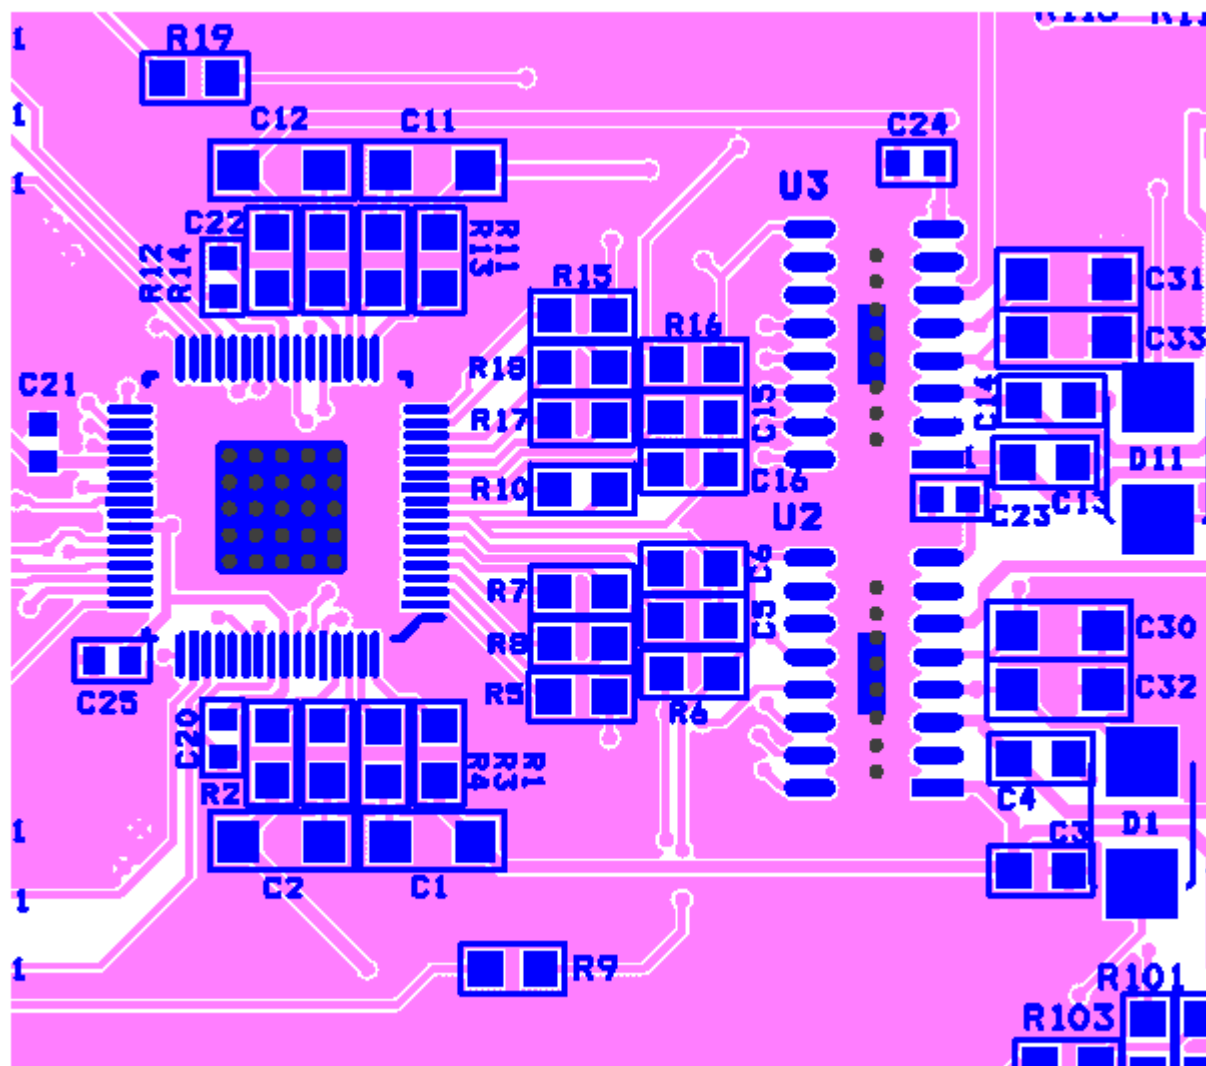

Figure 1. Top Layer (Component Side)
The connections between pins 6, 7, 10, 11 and their respective components (C5, C6, C15, C16) are of secondary concern. C5, C6, C15, and C16 should be placed immediately beyond the aforementioned resistors with the QGND traces wrapping to pin 8 from the outside. Under no circumstance should any digital traces be routed near these Si3220/Si3225 sensitive traces. The compensation capacitors, C3, C4, C13, and C14, should be placed near the respective TIP and RING outputs of the Si3200. A 0.1  $\mu$ F ceramic decoupling capacitor should be placed within 0.2 inch of every VDD and VBAT power supply input pin. These capacitors are C20–25 and C30–33. Refer to the evaluation board data sheet for an illustration and example of this layout. (See Figure 1 for component placement.)
The Si3220/Si3225 and Si3200 packages utilize an exposed pad to dissipate thermal energy. To achieve the thermal rating of the Si3200 package, as stated in the data sheet, the exposed pads must be soldered to multiple ground planes. A top side, bottom side, and one inner ground plane should be used with multiple vias connecting them together. Twenty five vias should be used in a 5x5 grid under the Si3220/Si3225. A line of eight vias should be placed in a row under the Si3200. The size of the vias used for the Si3200/Si3225 and Si3200 thermal pads should be at least 10 mils. (See Figures 1, 2, and 3.)
- Added Figures 1, 2, 3.